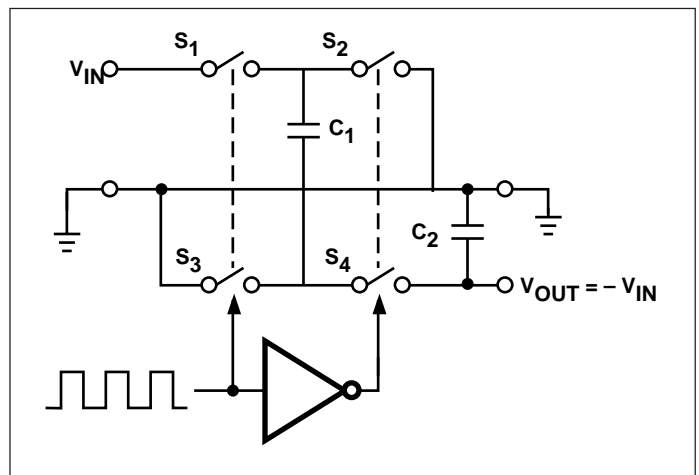
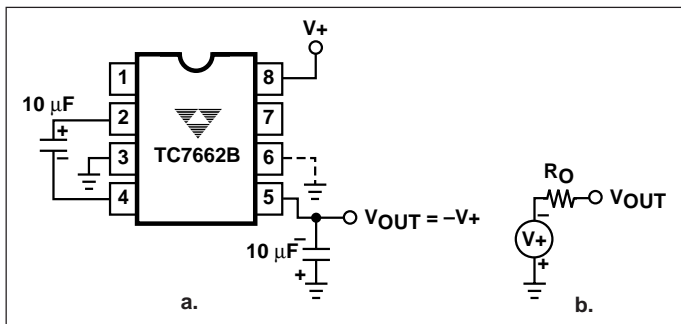
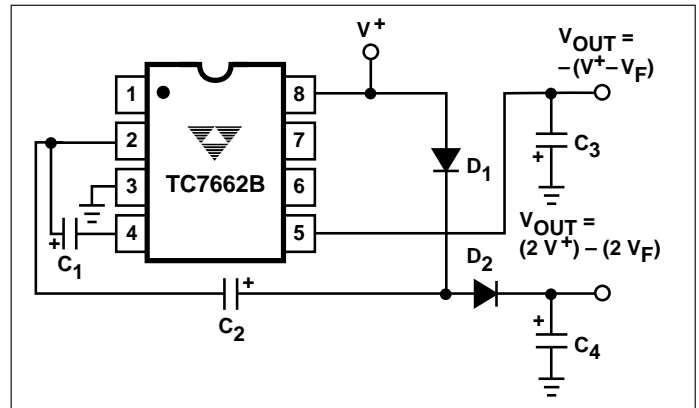

Figure 2. Idealized Negative Voltage Capacitor
Figure 3. Simple Negative Converter and its Output Equivalent
Figure 10. Combined Negative Converter and Positive Doubler
ELECTRICAL CHARACTERISTICS: V+ = 5V, T_A = +25°C, OSC = Free running, Test Circuit Figure 2, Unless Otherwise Specified.
The TC7662B contains all the necessary circuitry to complete a negative voltage converter, with the exception of two external capacitors which may be inexpensive 1 μ F polarized electrolytic types. The mode of operation of the device may be best understood by considering Figure 2, which shows an idealized negative voltage converter. Capacitor C₁ is charged to a voltage V⁺ for the half cycle when switches S₁ and S₃ are closed. (Note: Switches S₂ and S₄ are open during this half cycle.) During the second half cycle of operation, switches S₂ and S₄ are closed, with S₁ and S₃ open, thereby shifting capacitor C₁ negatively by V⁺ volts. Charge is then transferred from C₁ to C₂ such that the voltage on C₂ is exactly V⁺, assuming ideal switches and no load on C₂. The TC7662B approaches this ideal situation more closely than existing non-mechanical circuits.
In the TC7662B, the four switches of Figure 2 are MOS power switches; S₁ is a P-channel device and S₂, S₃ and S₄ are N-channel devices. The main difficulty with this approach is that in integrating the switches, the substrates of S₃ and S₄ must always remain reverse biased with respect to their sources, but not so much as to degrade their "ON" resistances. In addition, at circuit start up, and under output short circuit conditions (V_{OUT} = V⁺), the output voltage must be sensed and the substrate bias adjusted accordingly. Failure to accomplish this would result in high power losses and probable device latchup.
where V₁ and V₂ are the voltages on C₁ during the pump and transfer cycles. If the impedances of C₁ and C₂ are relatively high at the pump frequency (refer to Figure 2) compared to the value of R_L, there will be a substantial difference in voltages V₁ and V₂. Therefore, it is desirable not only to make C₂ as large as possible to eliminate output voltage ripple, but also to employ a correspondingly large value for C₁ in order to achieve maximum efficiency of operation.
The majority of applications will undoubtedly utilize the TC7662B for generation of negative supply voltages. Figure 3 shows typical connections to provide a negative supply where a positive supply of +1.5V to +15V is available. Keep in mind that pin 6 (LV) is tied to the supply negative (GND) for supply voltages below 3.5 volts.
The output characteristics of the circuit in Figure 3 can be approximated by an ideal voltage source in series with a resistance as shown in Figure 3b. The voltage source has a value of $-(V_+)$. The output impedance (R_O) is a function of the ON resistance of the internal MOS switches (shown in Figure 2), the switching frequency, the value of C_1 and C_2 , and the ESR (equivalent series resistance) of C_1 and C_2 . A good first order approximation for R_O is:
Figure 10 combines the functions shown in Figures 3 and 9 to provide negative voltage conversion and positive voltage doubling simultaneously. This approach would be, for example, suitable for generating +9V and -5V from an existing +5V supply. In this instance, capacitors C_1 and C_3 perform the pump and reservoir functions, respectively, for the generation of the negative voltage, while capacitors C_2 and C_4 are pump and reservoir, respectively, for the doubled positive voltage. There is a penalty in this configuration which combines both functions, however, in that the source impedances of the generated supplies will be somewhat higher due to the finite impedance of the common charge pump driver at pin 2 of the device.